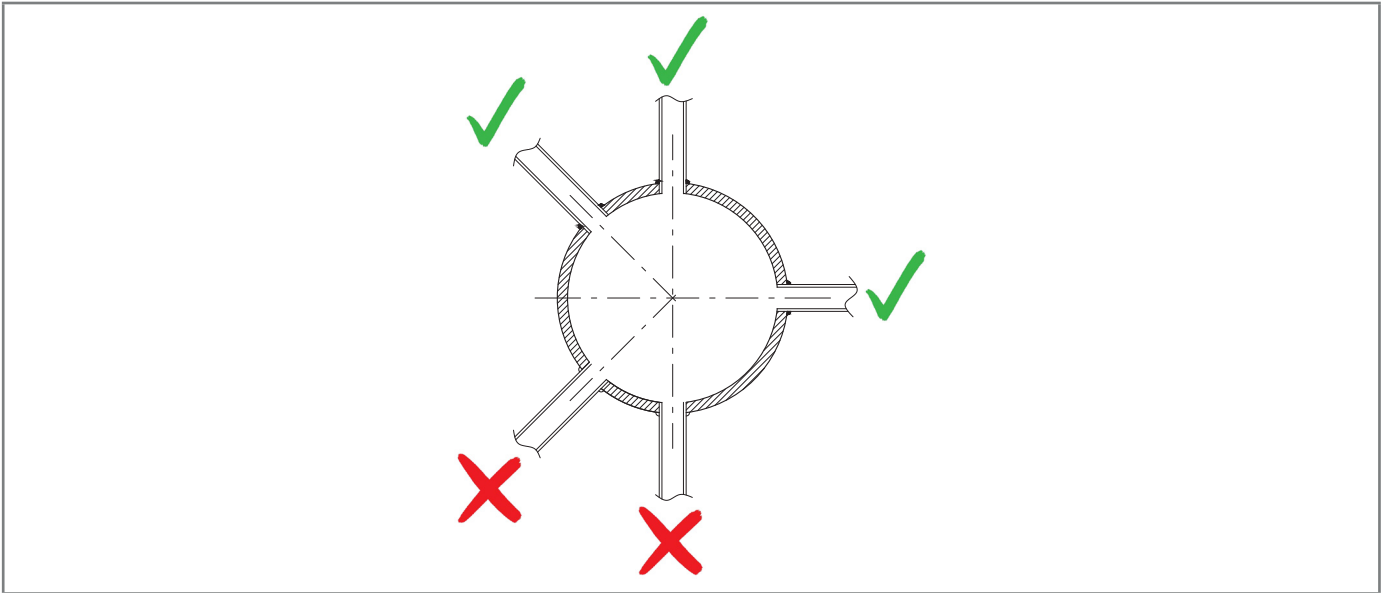

Fig. 6.22. *Welded connections of the pneumatic connection*
- the pneumatic connection couplings are always welded on the upper part or at maximum 90 degrees on the axis of the piping (refer to fig. 6.22);